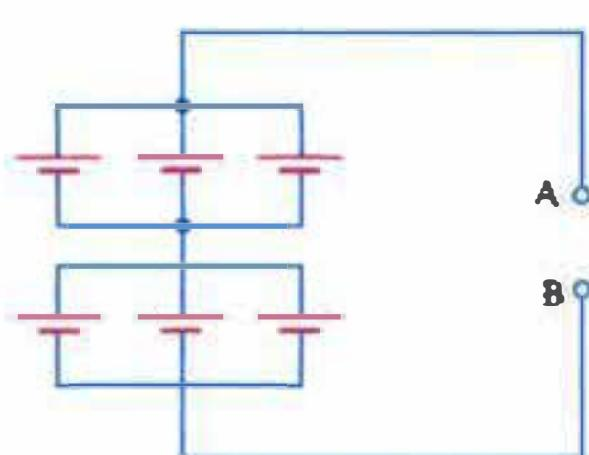

Fig. 1.19
5. What would be the voltage across points A and B in seriesparallel combination of Fig. 1.19 if each cell has a voltage of 1.5V ? [3V]